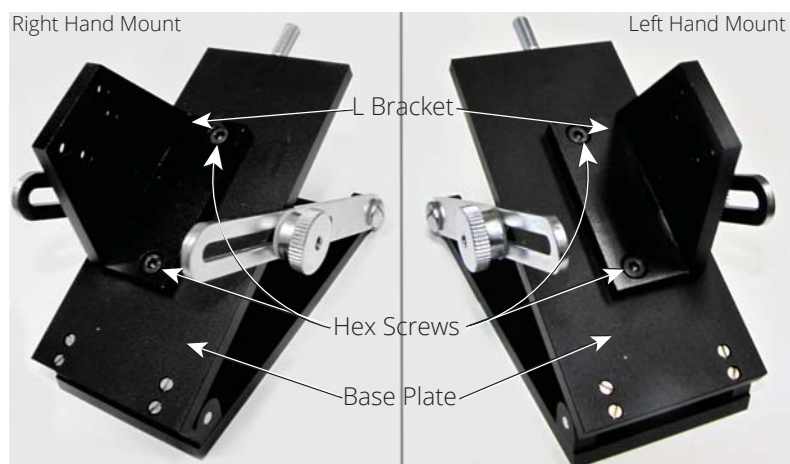

Fig. 1 — The L bracket must be repositioned for a left hand manipulator.
2. Rotate the L bracket 180° as shown on the right side of Fig. 1.